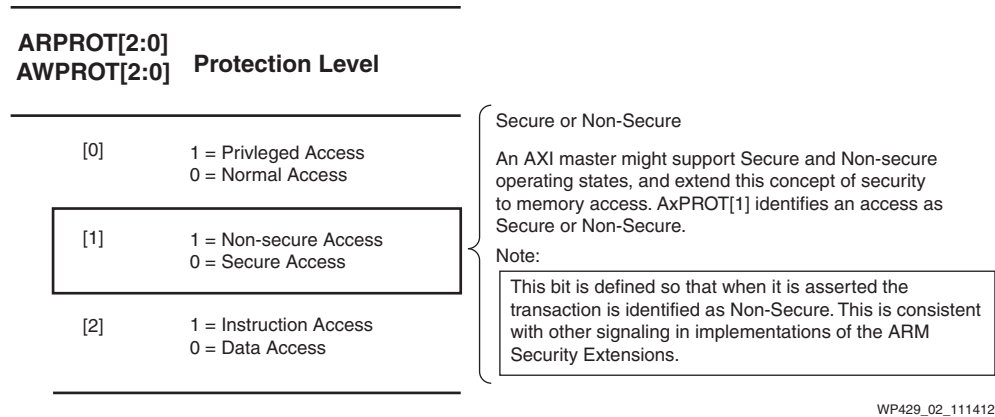

Figure 2: Secure/Non-Secure Bit: ARPROT[2:0] (Read) and AWPROT[2:0] (Write), Bit [1]
For ARM-based, TrustZone-enabled systems, the AMBA® AXI interface specification includes an additional control bit for each of the read and write channels on the main system interconnect. These bits are known as Non-Secure (NS) bits (see Figure 2).